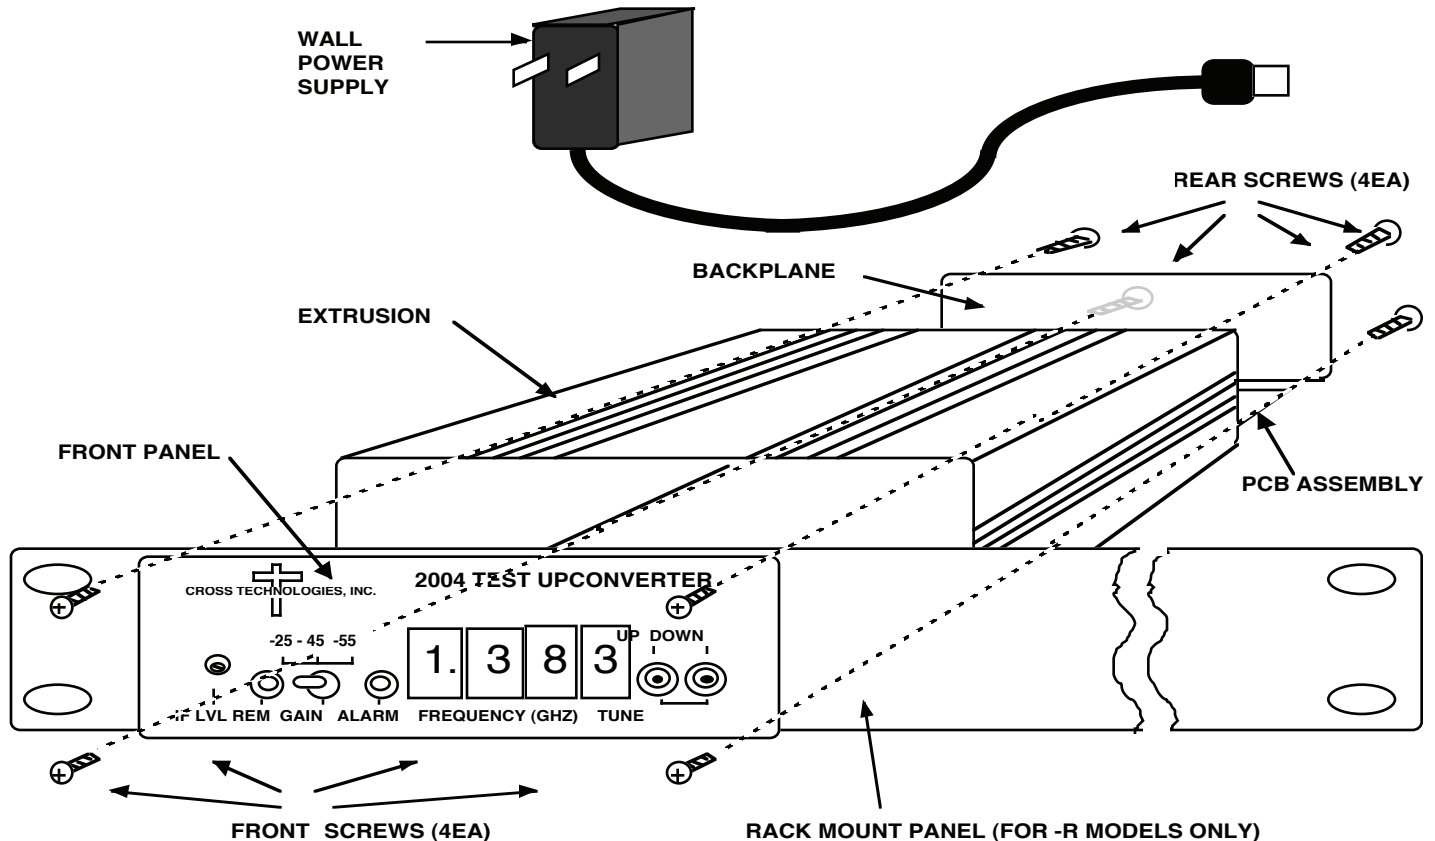
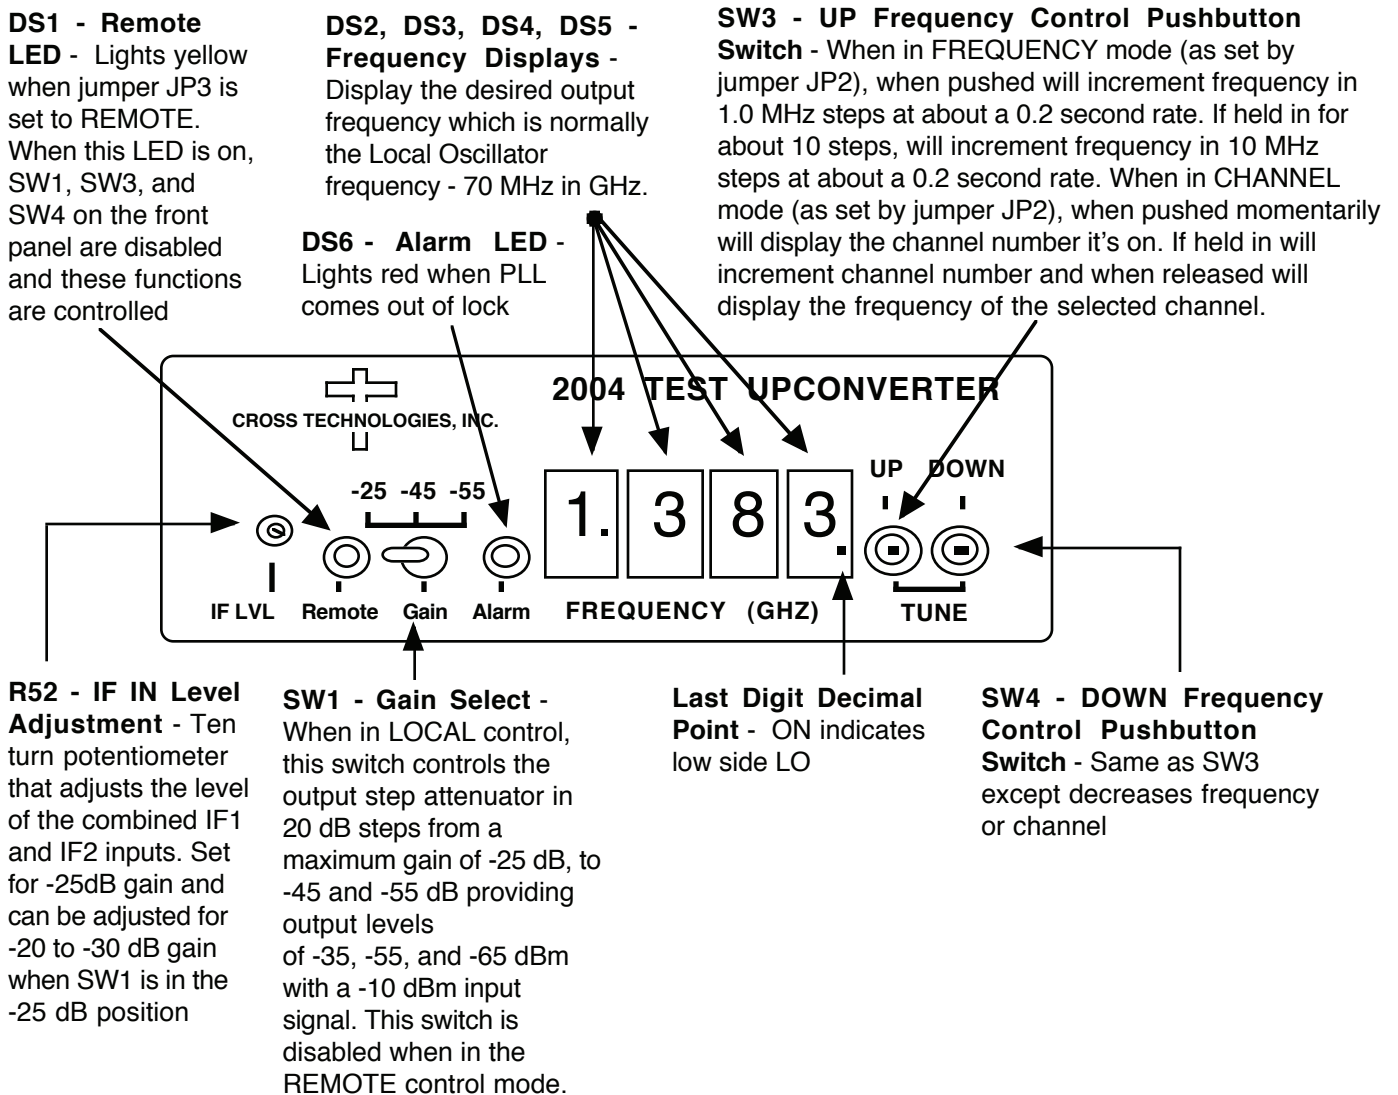
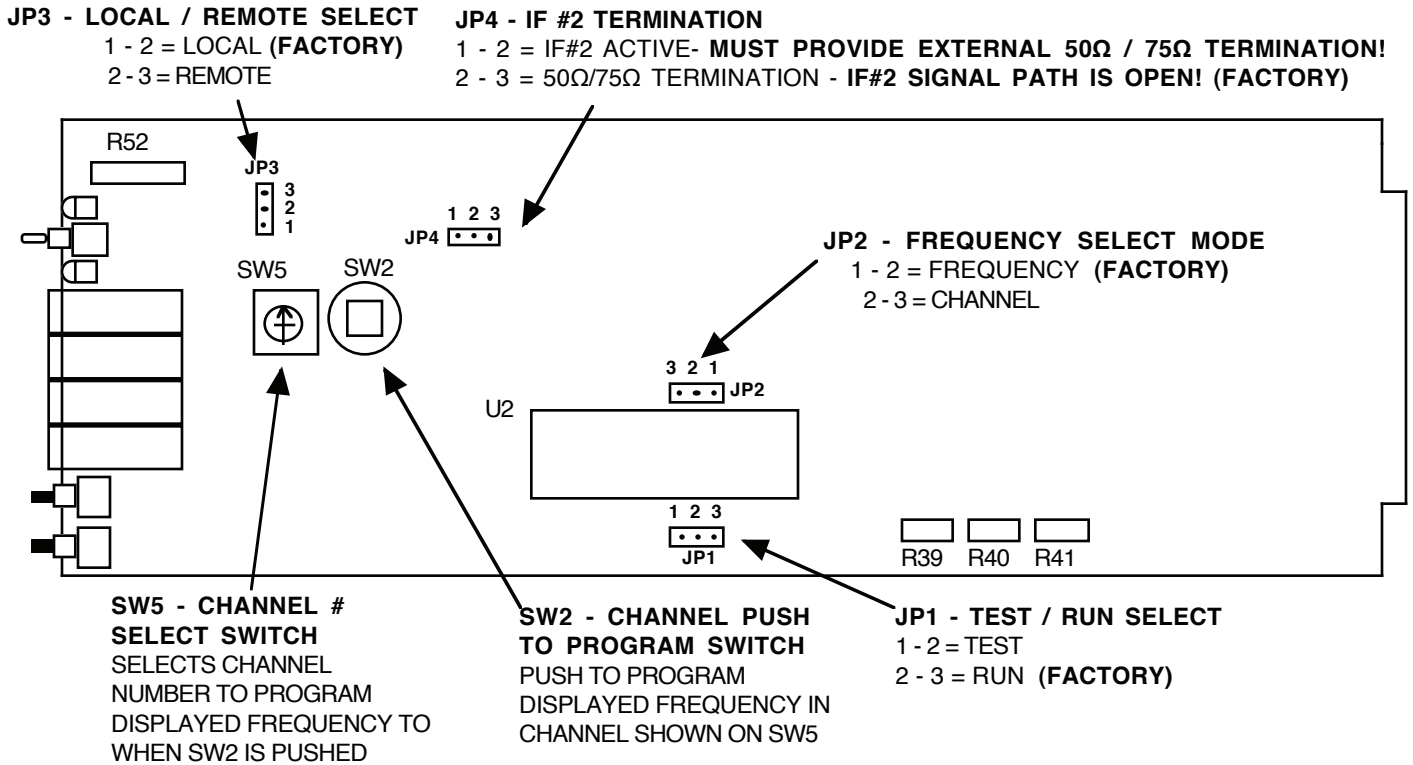

FIGURE 2.1 SERIES 2000 ASSEMBLY DRAWING
FIGURE 2.2 2003 Front Panel Controls and Indicators
FIGURE 2.4 2003 and 2003R On-Card Jumpers and Controls (See Section 2.4 for instructions on removing the PCB from the extrusion)
2.1 Mechanical - The 2003 and 2003R are packaged in an aluminum extrusion. The 2003R is mounted on a 1 3/4" X 19" panel that can be mounted to a rack using the 4 holes at the ends. Both units derive $\pm 15V$ from the wall power supply or an external regulated power supply such as the Cross Technologies, Inc. model 2000-01. See Figure 2.1.
2.2 Controls and Indicators - Figure 2.2 shows front panel controls and indicators.
2.4 Accessing and Changing On-Card Jumpers and Controls - Figure 2.4 shows jumpers (with factory settings) and other on-card controls. To remove the printed circuit board (PCB) from the extrusion for access to the jumpers and controls:
- 1.) Remove four (4) **rear panel screws** (see Figure 2.1).
- 3.) With the **wall power supply disconnected**, move jumpers to the desired positions (Figure 2.4).
- 7.) Install four (4) **rear panel screws**.
- 1.) If required, check that on-card jumpers are set to the desired positions (Figure 2.4)
- 2.) Connect the wall power supply to the 2003 and the wall power supply to 115 VAC, 60 Hz (Figure 2.1)
- 3.) Connect a -10dBm signal to IF #1 In (Figure 2.1, Figure 2.3)
- 4.) Connect a -10dBm signal to IF #2 In (Figure 2.1, Figure 2.3). If this port is not used it must be terminated in $50\Omega/75\Omega$ by connecting on-card jumper JP4 in the 2-3 position (Figure 2.4).
- 5.) Set the desired frequency by pushing SW3 or SW4. If numbers 0 to 9 appear when pushing SW3 or SW4, the 2003 is set for the channel mode (with on-card jumper JP4, Figure 2.4). See section 2.5.2 for frequency setting information.
- 6.) Set SW1 for the desired gain (Figure 2.2).
- 7.) Be sure DS1 and DS6 are off (Figure 2.2).
- 8.) If needed, R52 can be adjusted (Figure 2.2) for input signals that are different than -10 dBm (-5 to -15 dBm). Note that this adjusts the levels of both IF #1 and IF #2 and uncalibrates the 2003 from its -10 dBm input setting.
- 2.) **To go to the change modes function**, simultaneously **press and release both the Up and Down pushbutton** switches (SW3 and SW4, see Figure 2.2). The current IF frequency is shown on the displays.
- 5.) **To check the selected IF frequency**, momentarily **press and release both the Up and Down pushbutton** switches (SW3 and SW4, see Figure 2.2)
2.5.4 Frequency Setting, Channel Mode - A second tuning mechanism is channel selection. This is accomplished when the on board three-pin jumper (JP2) (Figure 2.4) is set to the "channel" position. Ten preset channels (0-9) can be selected as follows:
1. The 2003 PCB is removed from the extrusion (see section 2.4 for instructions) to access the channel selecting decimal switch (SW5) and the push to program switch (SW2) (Figure 2.4). With the display mode jumper (JP2) set in the frequency mode, the frequency set switches (SW3,SW4) are pushed to the frequency desired (Figure 2.2).
2. The decimal switch (SW5) is set to the channel number desired to be programmed (Figure 2.4).
3. Push programming button (SW2) to program the displayed frequency into that channel number (Figure 2.4).
5. When finished, set JP2 (Figure 2.4) in the "Channel" position if this tuning mechanism is desired.
2.5.5 Remote Operation - Frequency control and setting of the output attenuator can be remotely commanded from an external (not supplied) PC using a simple DOS program. To place the 2003 in the Remote mode, place on-card jumper JP3 in the REMOTE (pins 2-3) position (Figure 2.4) and observe yellow LED DS1 (Figure 2.2) is on. Serial ASYNC (8N1) data is received via RS232C receiver U4 and sent via RS232C transmitter U13 at a 9.6kB/s data rate. When in the remote mode, either frequencies or channel numbers can be provided, but programming the frequencies of the channels can only be done locally. When in the remote control mode, the selection of U6 and consequently the output attenuator U16, U24 is controlled through the remote serial port disabling the function of front panel attenuator control switch SW1 and providing gain selection of -35 dB, -55 dB or -65 dB.
3.2.3 Frequency Setting, Channel Mode - A second tuning mechanism is channel selection. This is accomplished when the on board, but not front panel accessible, three-pin jumper (JP2) (Figure 2.4) is set to the “channel” position. Ten preset channels (0-9) can be selected as follows:
5. When finished, set JP2 (Figure 2.4) in the “Channel” position if this tuning mechanism is desired.